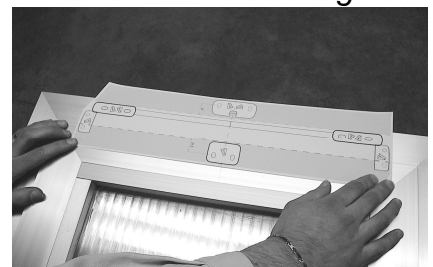

Figure 7
D. Attach the template to the window frame (fixed part) and line axis up with the centre line "X" traced earlier (Fig. 7). Warning: for window frames not on the same plane, cut the part of the template coloured in grey and fix this to the moveable part of the window frame, taking care to keep it in the same position.